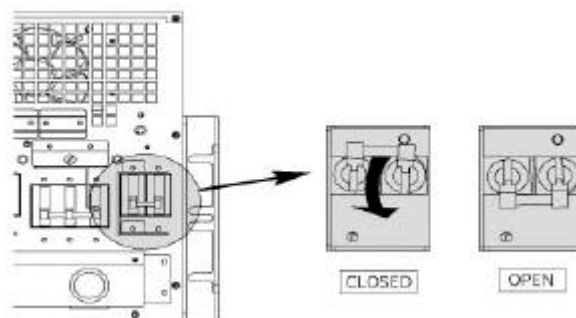

FIG 66 – 10KVA INPUT BREAKER
5. Turn the INPUT CIRCUIT BREAKER to OFF position (FIG 66).